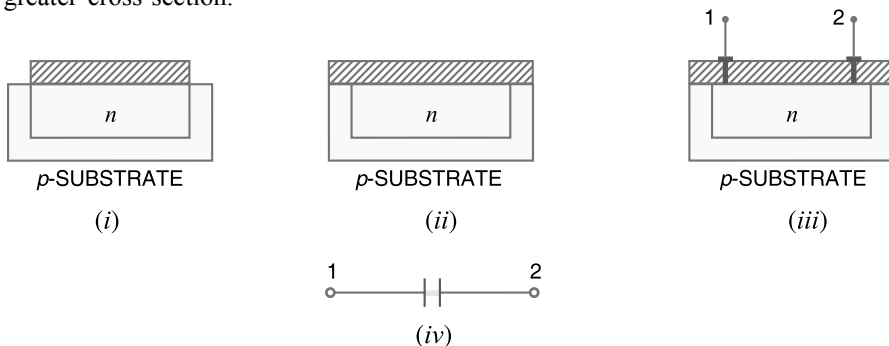

Fig. 21.9
**(iv) Capacitors.** Fig. 21.9 shows the process of fabricating a capacitor in the monolithic IC. The first step is to diffuse an  $n$ -type material into the substrate which forms one plate of the capacitor as shown in Fig. 21.9 (i). Then  $\text{SiO}_2$  layer is re-formed over the wafer by passing pure oxygen as shown in Fig. 21.9 (ii).
The  $\text{SiO}_2$  layer formed acts as the dielectric of the capacitor. The oxide layer is etched and terminal 1 is added as shown in Fig. 21.9 (iii). Next a large (compared to the electrode at terminal 1) metallic electrode is deposited on the  $\text{SiO}_2$  layer and forms the second plate of the capacitor. The oxide layer is etched and terminal 2 is added. This gives an integrated capacitor. The value of capacitor formed depends upon the dielectric constant of  $\text{SiO}_2$  layer, thickness of  $\text{SiO}_2$  layer and the area of cross-section of the smaller of the two electrodes.